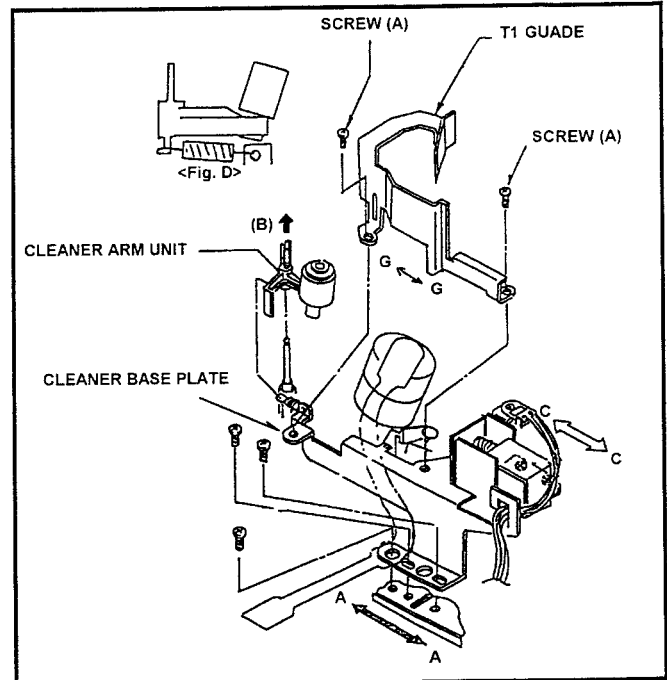

Fig. 6-1-6
2. Unscrew the 2 screws (A) and remove the T1 GUIDE as shown in Figure 6-1-6.
2. Observe the clearance (B) between T1 Guide and T1 post as shown in Figure. And make sure that it is within 0.2 to 0.5mm. (as shown in figure 6-1-6.)
3. If not, loosen the 2 screws (A) and adjust the position of T1 Guide by moving arrow direction (G ⇌ G) so that the clearance (B) is within specification. And tighten the 2 screws (A). (as shown in figure 6-1-6 and 6-1-7.)